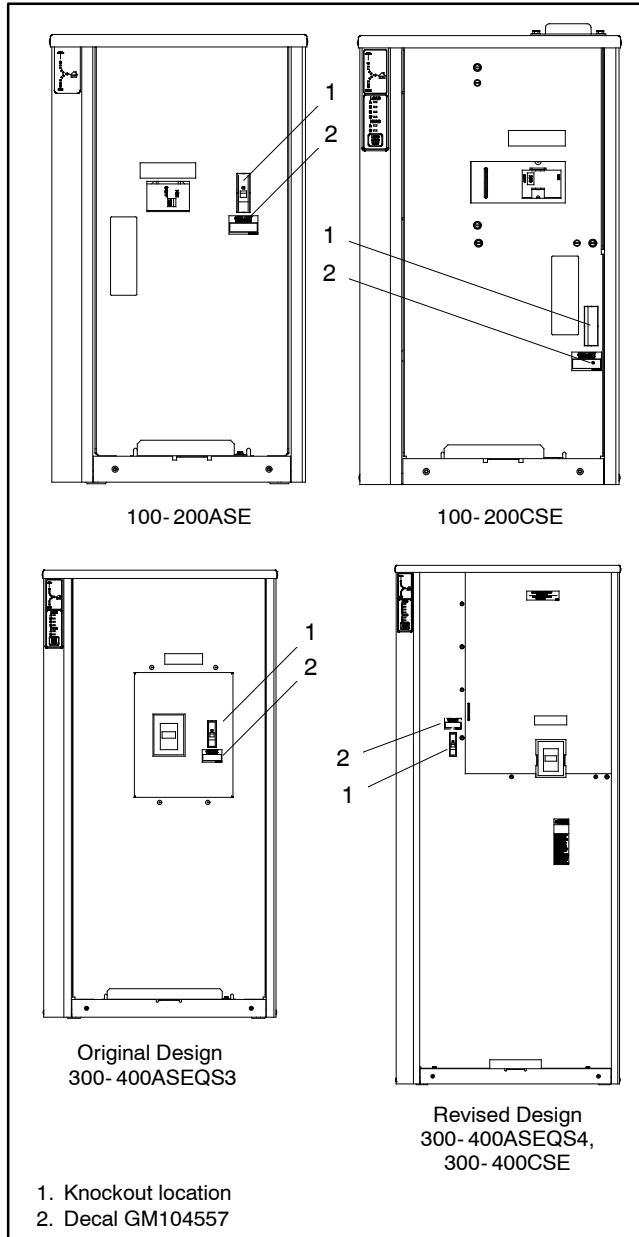

Figure 3 Knockout and Decal Locations in the Inner Door or Panel, typical
- The inner panel has a knockout for the auxiliary circuit breaker. See Figure 3 for sample knockout locations. Remove the knockout.
9. Affix the decal to the inner panel above or below the auxiliary circuit breaker. See Figure 3 for recommended decal locations.